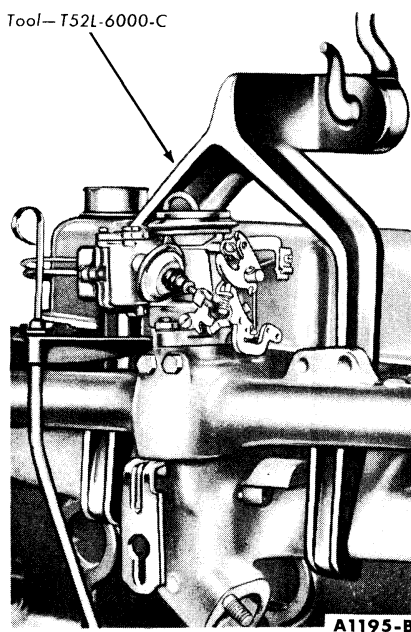
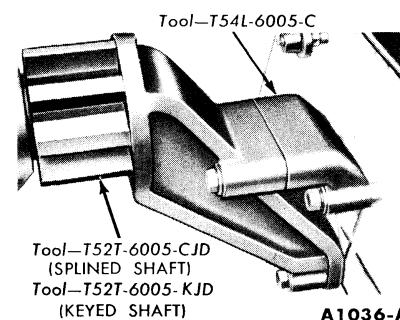

FIG. 11—Engine Lifting Hook
FIG. 12—Engine Mount
11. Attach the engine lifting hook (Fig. 11). Raise the engine slightly, then carefully pull it from the transmission. Lift the engine out of the chassis, then install it on a work stand (Fig. 12).